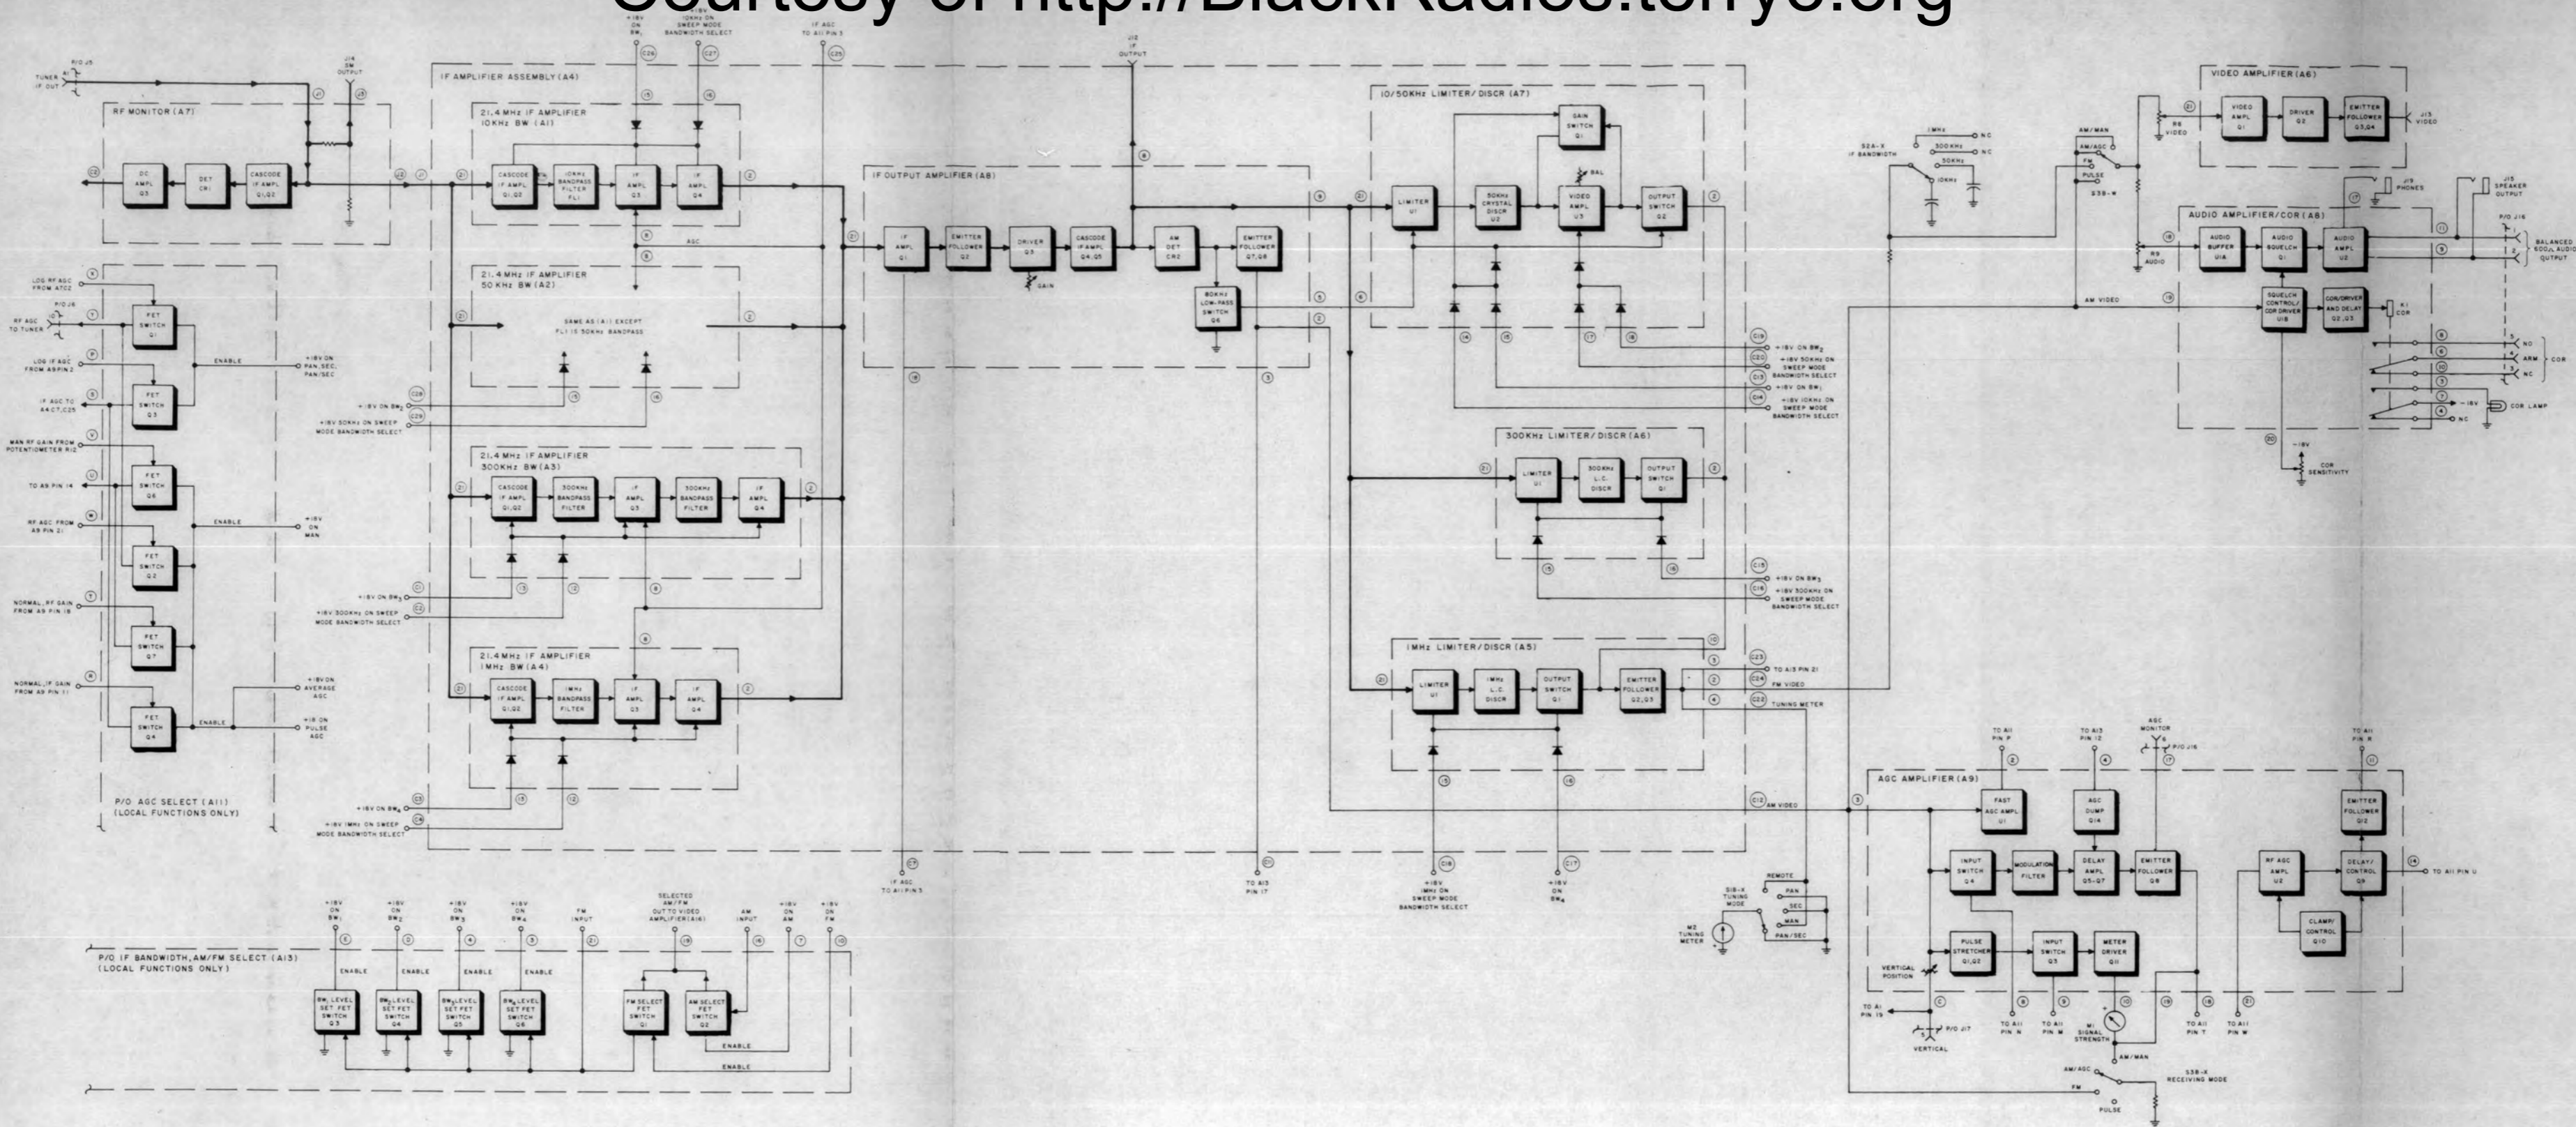

Figure 2-1. Type 215 Receiver, Receiving Circuits, Functional Block Diagram
Operation of the various circuits in the 215 Receiver is described in the following paragraphs using the functional block diagrams, Figures 2-1, 2-2, and 2-3, and the schematic diagrams in Section VI. The unit numbering method is used for electrical components. This means that parts on subassemblies and modules carry a prefix before the usual class letter and number of the item. Examples are: A7Q2 which identifies a transistor in module A7, and A10CR1 which identifies a diode on subassembly A10. These prefixes are omitted on illustrations and in the text except in those cases where confusion might result from their omission.
2.2.1 Receiving Circuits. - Figure 2-1 illustrates the functional interconnections between the various receiving circuits in the 215 Receiver.